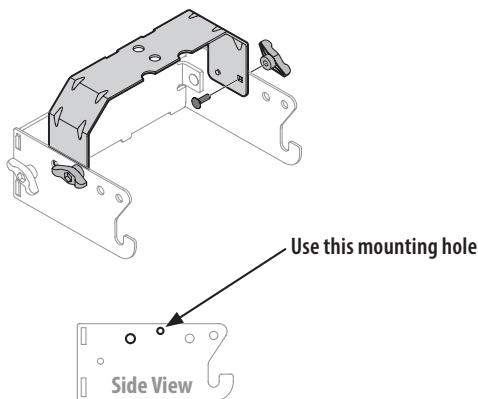

Figure 2
2. Flip over assembly and mount the universal support bracket (783-08129) to the rider hitch bracket assembly using two carriage bolts (710-0276) and wing knobs (720-04122) from hardware pack (689-02364) as shown in Figure 2.